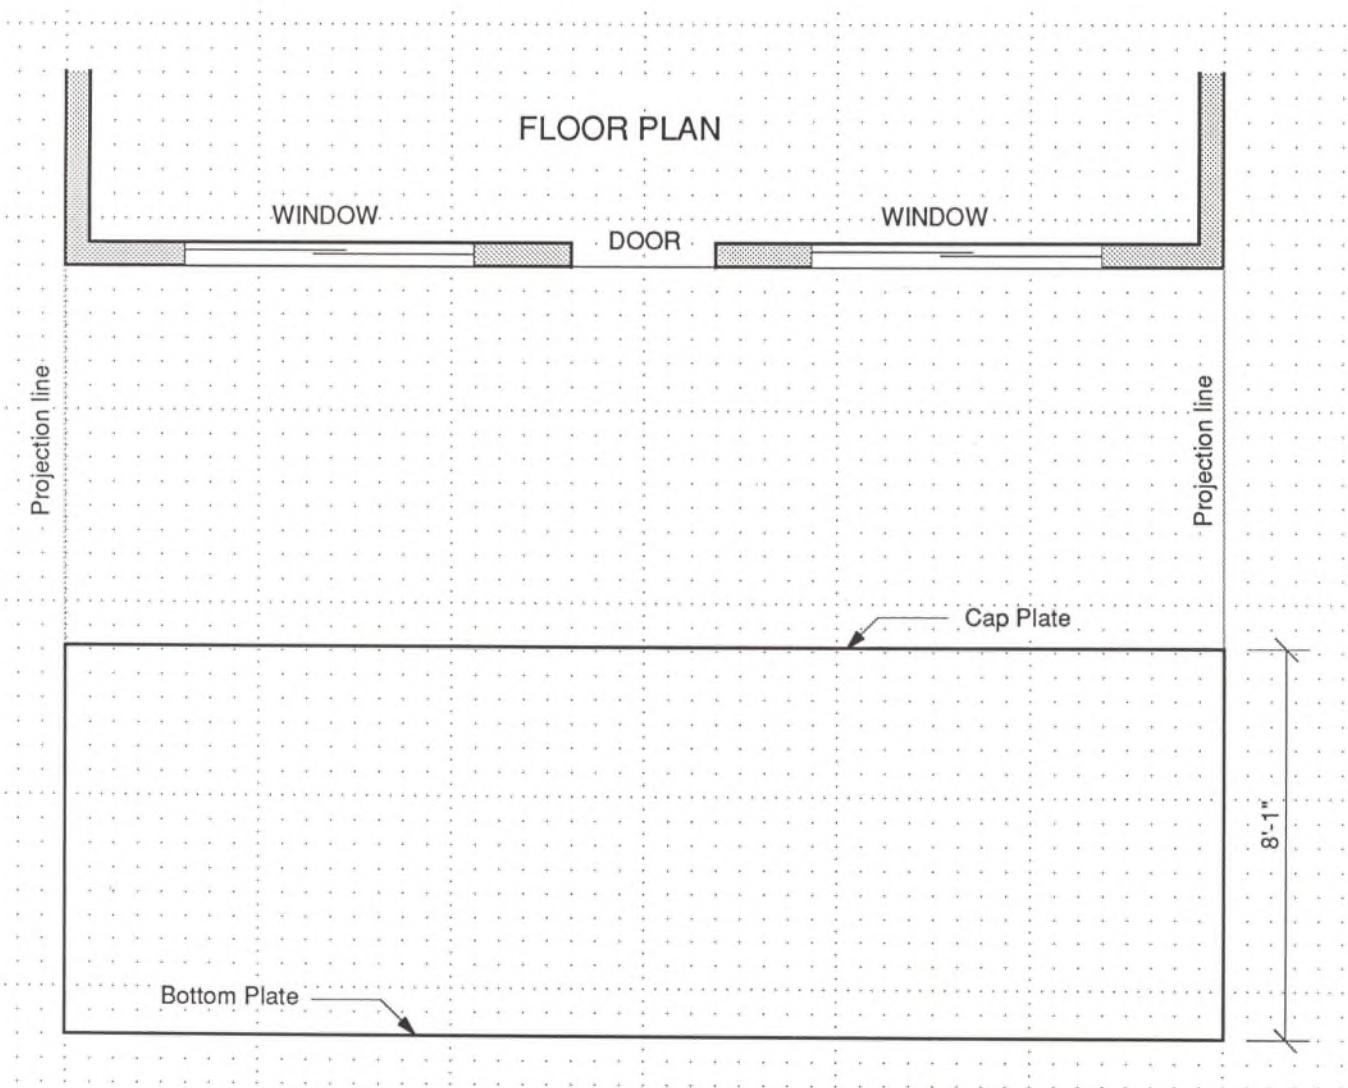

Fig. 24.4 Measure the wall height and draw the top of the cap plate; then draw the wall corner lines.
1. Draw light projection (connecting) lines *down* from the outside corners of the floor plan, allowing them to intersect with the bottom-plate line. (See Fig. 24.4.)
2. Measure *up* from the bottom plate line 8' - 1" in 1/4" scale and draw a line to represent the top of the wall (cap plate) as shown in Fig. 24.4.